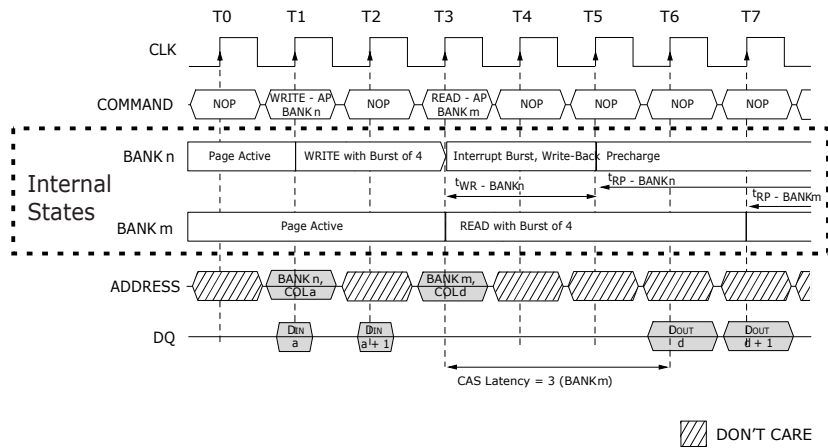

Figure 47.8. Write with Auto Precharge Interrupted by a Read
1. Interrupted by a Read (with or without auto precharge): When a Read to bank m registers, it will interrupt a Write on bank n , with the data-out appearing 2 or 3 clocks later, (depending on CAS latency). The precharge to bank n will begin after t_{WR} is met, where t_{WR} begins when the Read to bank m is registered. The last valid Write to bank n will be data-in registered one clock prior to the Read to bank m (Figure 47.8).